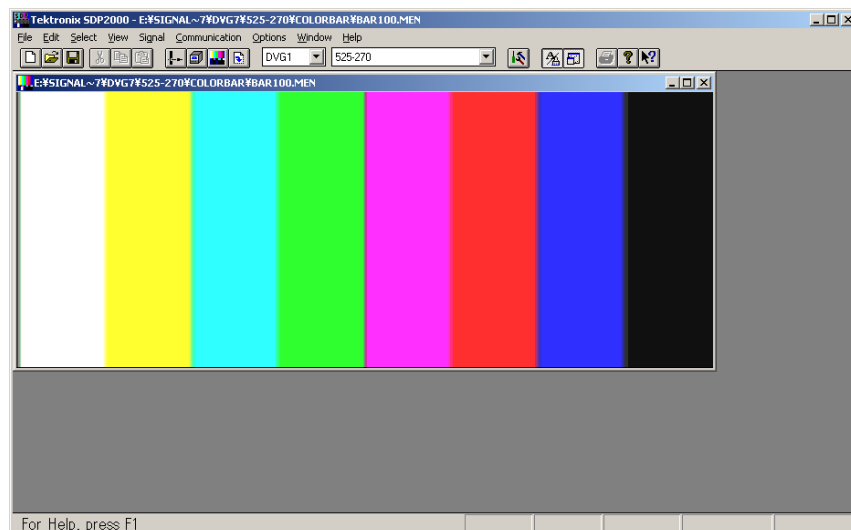

Figure 6 Graphic View Window of a MEN File
STEP 6 Press the 5th button from the right on Tool Bar located at the top of window while a MEN file is being open. With this, Graphic View window of test signal opens. To display the Graphic View in a size matched with the window size being open, use Size Adjust button (the 4th button from the right) (refer to Figure 6).